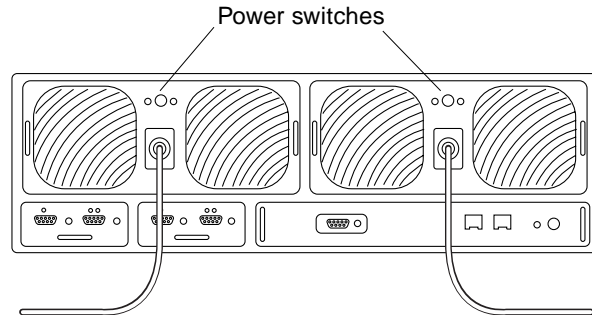

FIGURE 3-5 Power Switch Locations
4. Press the power switch on the power and cooling units on both arrays to remove AC power (FIGURE 3-5).